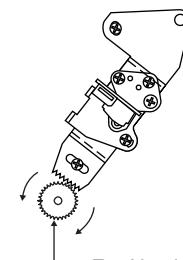

Figure 4-33.
Move the A/C head with the X value adjustment gear driver (JiGDRiVER-6) by the method shown in Figure 4-33, and adjust the A/C head so as to get the maximum envelope waveform. (Note: When the A/C head is adjusted, adjust so that the maximum envelop waveform is obtained nearest the position of initial setting made in Page 21.)
- ③ Move the A/C head with the X value adjustment gear driver by the method shown in Figure 4-33, and adjust the A/C head so as to get the maximum envelope waveform. (Note: At this time adjust so as to get the maximum envelope waveform nearest the A/C head position which has been set in case of X value rough adjustment as stated in Page 23, 3-②.)
- ④ Tighten finally the screws ① and ②. Be sure to tighten at first the screw ① and then the screw ②. Final tightening torque is 0.6N·m (If the screw ② is tightened first, the X value may deviate.)
- ⑤ Adjust the playback switching point (Refer to the electric adjustment method.)
- ⑥ Playback the self-picture-recorded tape, and check the flatness of envelope waveform and sound.